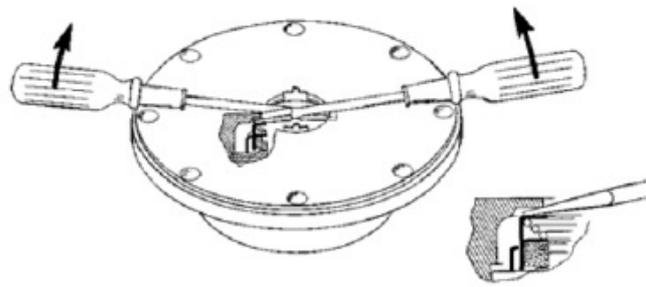

Figure 5 – Mechanical Seal Removal
3. **On YB model pumps**, remove the inboard bearing cover capscrews (28) and slide the inboard bearing cover (27A) and gasket (26) off the shaft. Discard the gasket. On the 2, 2.5 and 3-inch pump models, the dirt shield will come off with the bearing cover. Inspect dirt shield and replace as required.
5. Remove the outboard bearing cover capscrews (28) and the outboard bearing cover (27) and bearing cover gasket (26). Discard the bearing cover gasket.
7. Remove the head capscrews (21). Gently pry the head away from the cylinder.
8. Slide the head off the shaft. The head O-ring (72), bearing (24), and mechanical seal (153) will come off with the head assembly. Remove and discard the head O-ring.
- a. Pull the bearing (24) from the housing in the head.
- b. To remove the mechanical seal, use two screw drivers against the backside of the seal jacket to gently push the seal from the head (see Figure 5). Use care when placing the screw drivers to prevent damage to the seal faces. Remove and discard the seal O-rings.
9. Pull the rotor and shaft (13) from the cylinder. While one hand is pulling the shaft, the other hand should be cupped underneath the rotor to prevent the vanes (14) and push rods (77) from falling out. Carefully set the rotor and shaft aside for future vane replacement and reassembly.